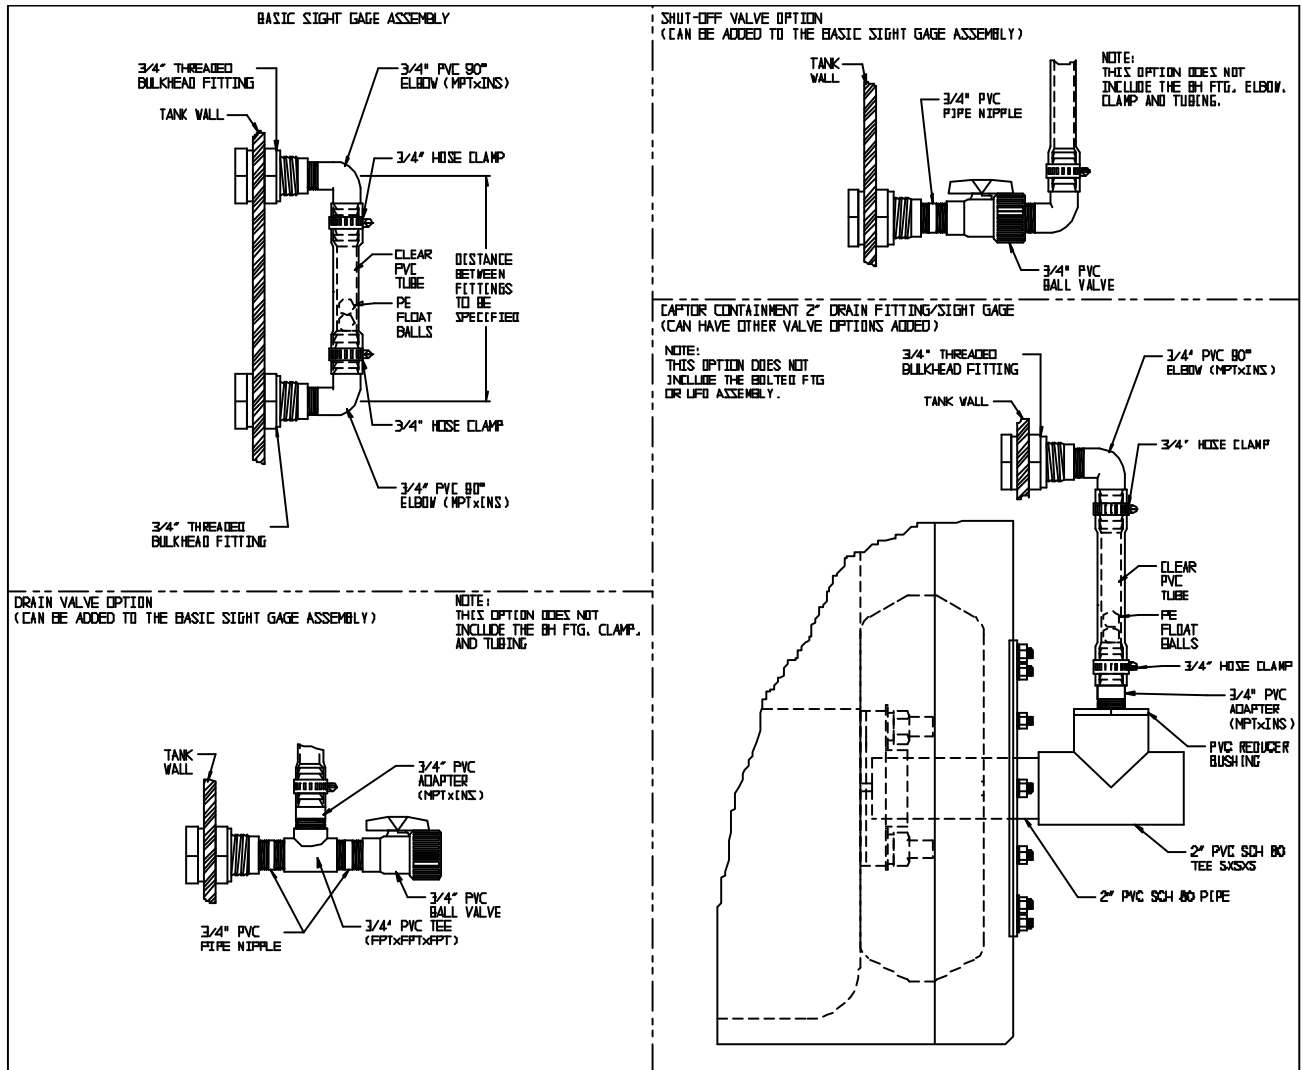

Figure 7.6
7.6.2 Using the assembly drawings shown in Figure 7.6, verify that all parts are present and assemble the unit per the appropriate drawing. Seal all threaded pipe connections with Teflon pipe sealant. Gallonage decals may be purchased as separate items and customer applied to the tank to assist in indication of tank gallonage. NOTE - Gallonage decals are not available for all tank sizes.